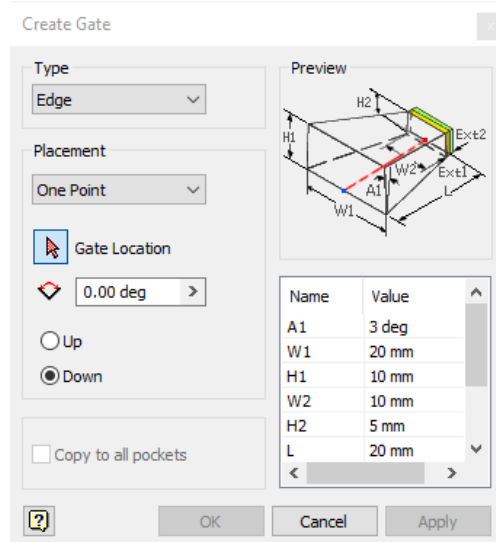

Figure 19-83 The Create Gate dialog box
1. Choose the **Gate** tool from the **Runners and Channels** panel of the **Mold Layout** tab in the **Ribbon**; the **Create Gate** dialog box is displayed, as shown in Figure 19-83.